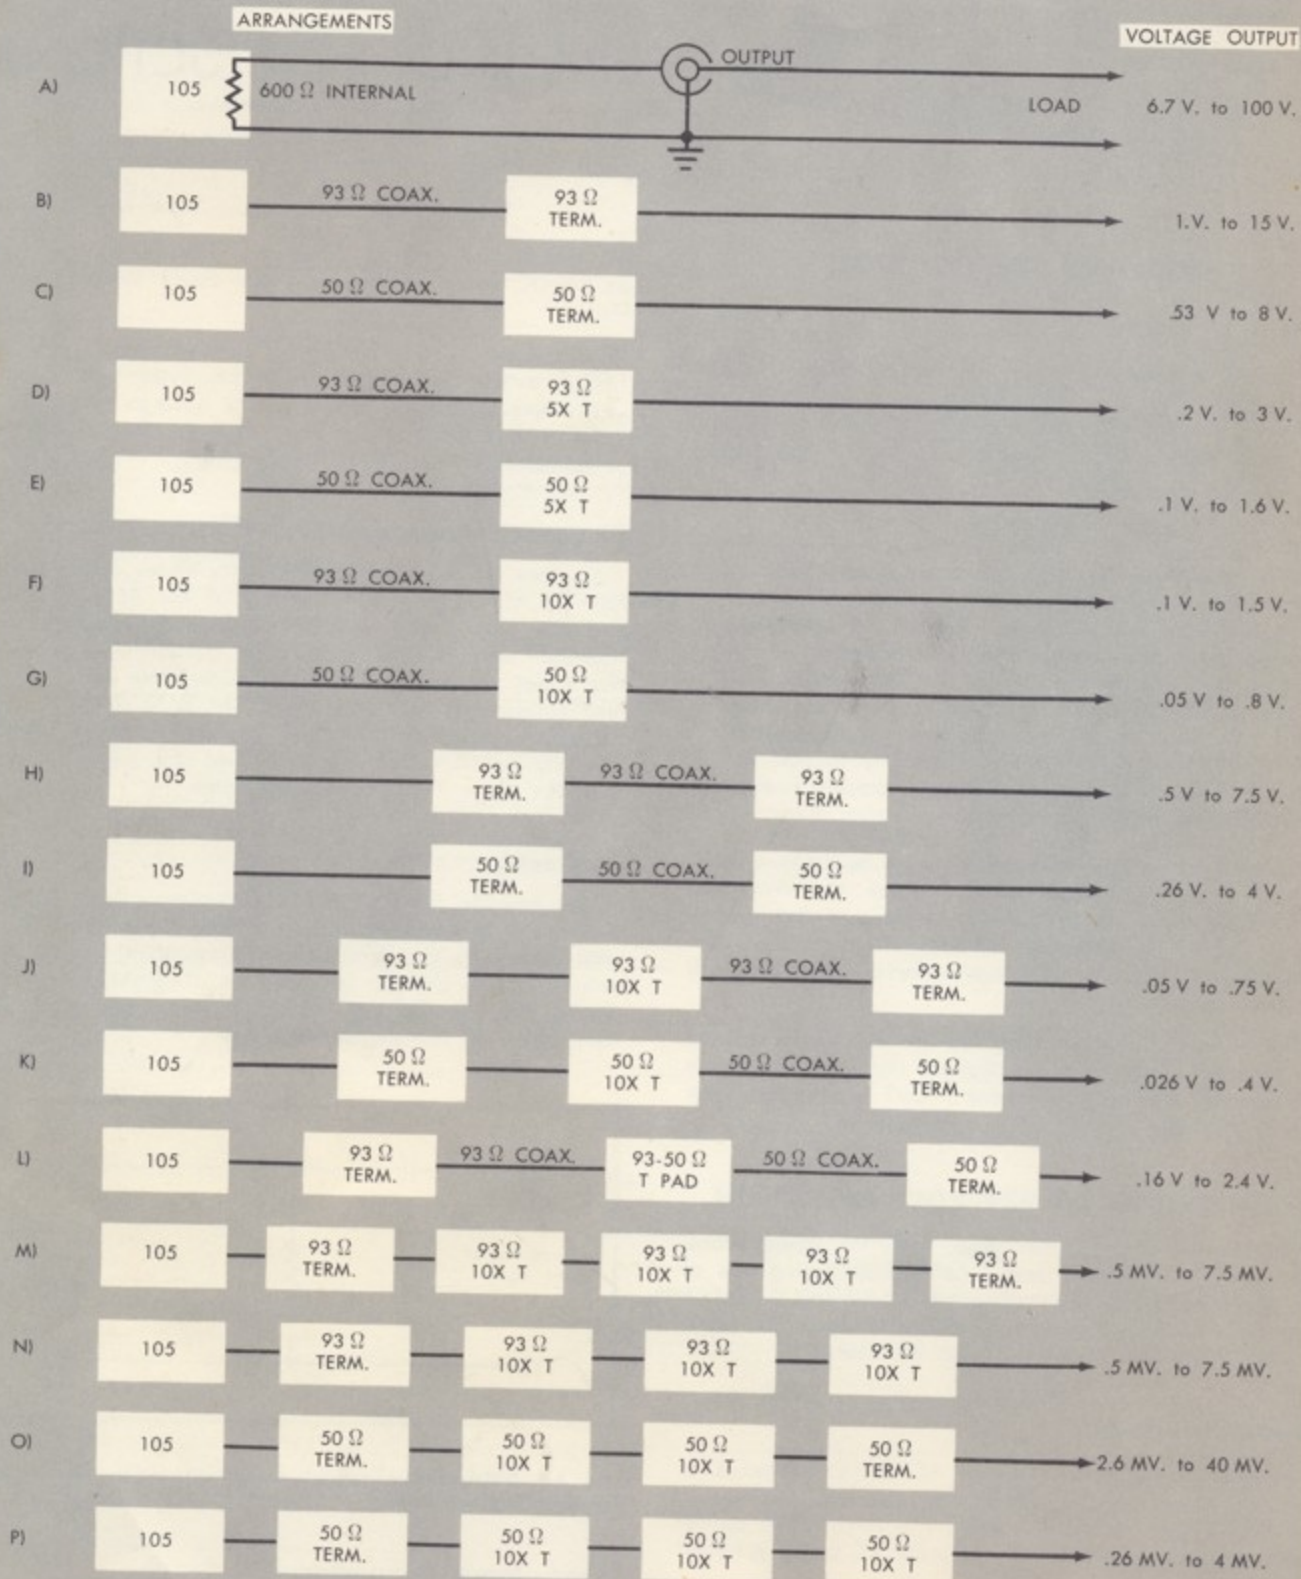

Fig. 2-2. Certain combinations of terminating resistors, attenuator pads and cables.
The range of output voltages obtainable depends upon the amount of external load resistance you connect across the output connector. Block diagrams of some typical combinations of attenuator pads, terminating resistors, and cables are shown in Fig. 2-2, along with typical resulting ranges of peak-to-peak output voltages. For the best output waveform, you should use a combination such that, for the output voltage you want, the OUTPUT AMPLITUDE control is in the right-hand portion of its range.
The risetime of the square-wave output of the Type 105 is short enough to cause "ringing" (damped oscillations) in an LC circuit whose resonant frequency is less than about 30 megacycles. These oscillations appear along the flat top of a square wave displayed on the oscilloscope. Precautions you can take to avoid this trouble include (1) use of short leads to connect the generator or its output cable or termination to the load, and (2) use of proper terminating resistors or pads at both ends of the generator output cable (see diagrams H through P, Fig. 2-2).